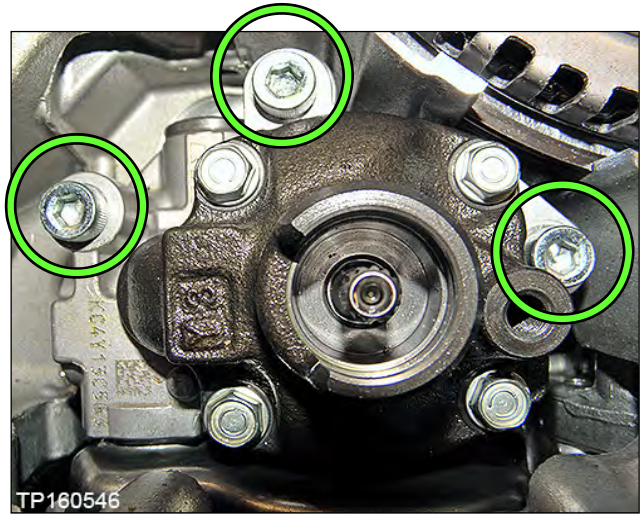

Figure 65
42. Install the new oil pump using three (3) original Allen-head bolts (Figure 65).